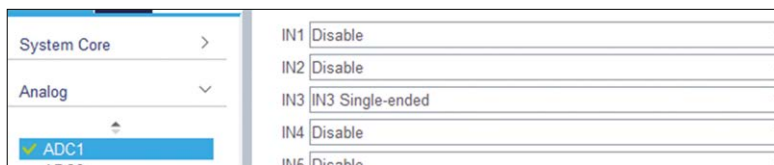

Figure 8.3: Select channel IN3 of ADC1.
- Click the **Analog** tab and select **ADC1** and enable channel **IN3** as **Single-ended** to enable ADC on this channel (Pin PC2), see Figure 8.3.